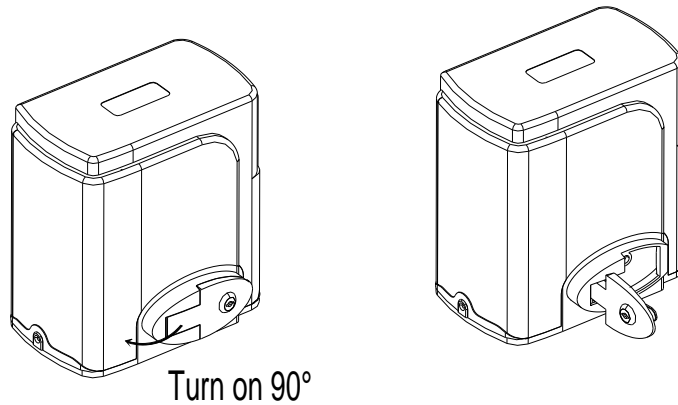

Figure 5
c) Please unlock the main engine before installation, the unlock method is: insert the key, open the manual release bar till it rotates by 90° as shown in Figure 5. Then turn the output gear and the gear can be rotated easily;